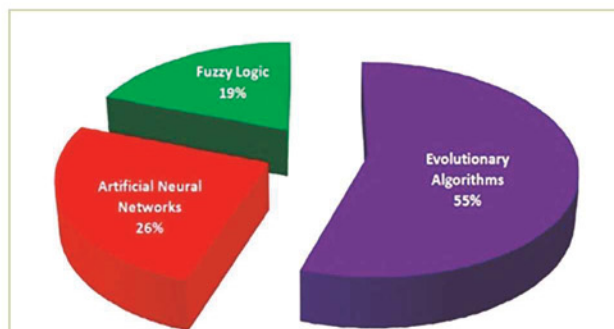

Figure 1: Soft computing approaches applied to complex electrical problems over the past decade
neural networks (ANN) and evolutionary algorithms (EA); see Figure 1.